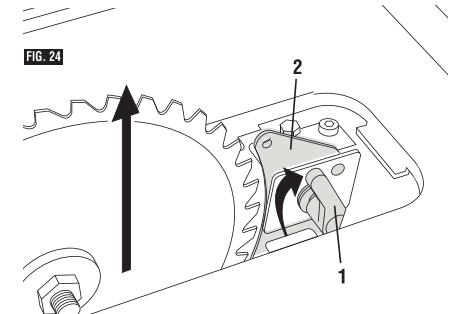

FIG. 24
2. Raise the blade as high as it will go and set it perpendicular to table (0° on bevel scale) (Fig. 24).
3. Rotate the riving knife release lever 1 clockwise, so that it points upward (Fig. 24).